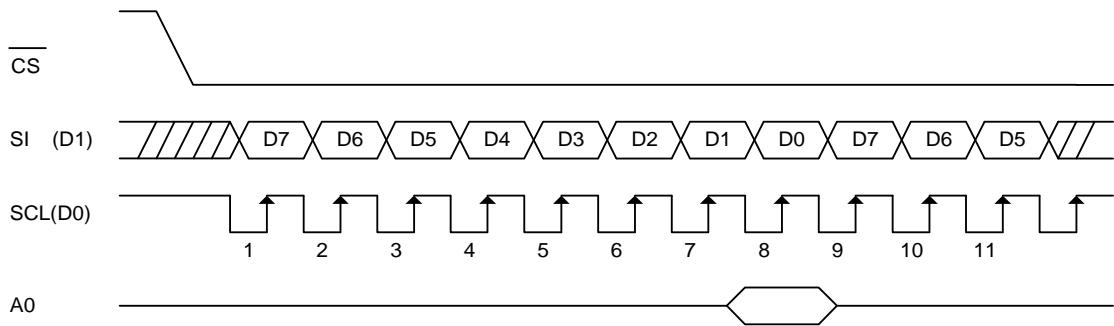
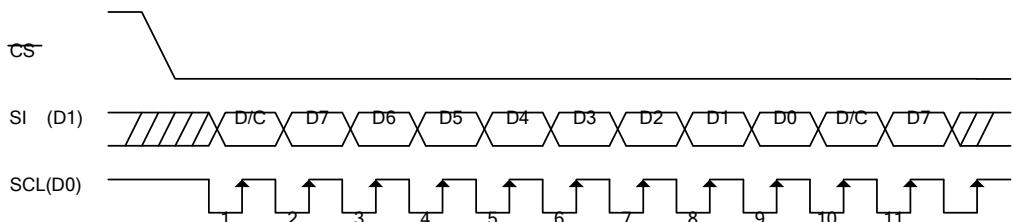

Figure 14 4-wire SPI data transfer
Figure19 3-wire SPI data transfer
The SP5140 supports both read and write access. The R / \overline{W} bit is part of the slave address. Before any data is transmitted on the I²C-bus, the device that should respond is addressed first. Two 7-bit slave addresses (0111100 and 0111101) are reserved for the SP5140. The least significant bit of the slave address is set by connecting the input SA0 to either logic 0(GND) or 1(VDD). The I²C-bus protocol is illustrated in Fig.14. The sequence is initiated with a START condition (S) from the I²C-bus master that is followed by the slave address. All slaves with the corresponding address acknowledge in parallel, all the others will ignore the I²C-bus transfer. After acknowledgement, one or more command words follow which define the status of the addressed slaves. A command word consists of a control byte, which defines Co and D / C (note1), plus a data byte (see Fig.19). The last control byte is tagged with a cleared most significant bit, the continuation bit Co. After a control byte with a cleared Co-bit, only data bytes will follow. The state of the D / C-bit defines whether the data-byte is interpreted as a command or as RAM-data. The control and data bytes are also acknowledged by all addressed slaves on the bus. After the last control byte, depending on the D / C bit setting, either a series of display data bytes or command data bytes may follow. If the D / C bit was set to '1', these display bytes are stored in the display RAM at the address specified by the data pointer. The data pointer is automatically updated and the data is directed to the intended SP5140 device. If the D / C bit of the last control byte was set to '0', these command bytes will be decoded and the setting of the device will be changed according to the received commands. The acknowledgement after each byte is made only by the addressed slave. At the end of the transmission the I²C-bus master issues a stop condition (P). If the R / w bit is set to 1 in the slave-address, the chip will output data immediately after the slave-address according to the D / C bit, which was sent during the last write access. If no acknowledge is generated by the master after a byte, the driver stops transferring data to the master.